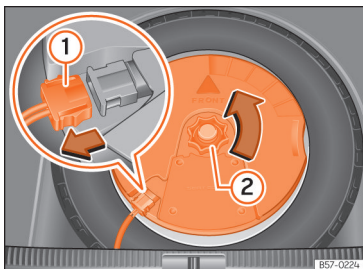

Fig. 185 In the boot: remove the subwoofer.
- Disconnect the subwoofer's speaker cable >>> **Fig. 185 ①**.
- Turn the securing wheel anti-clockwise >>> **Fig. 185 ②**.